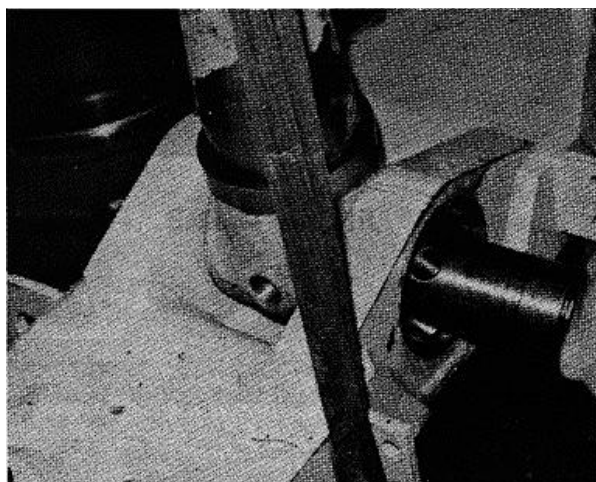

FIGURE 9-123.
e. Install upper bearing cone washer and slotted nut (see figure 9-123).